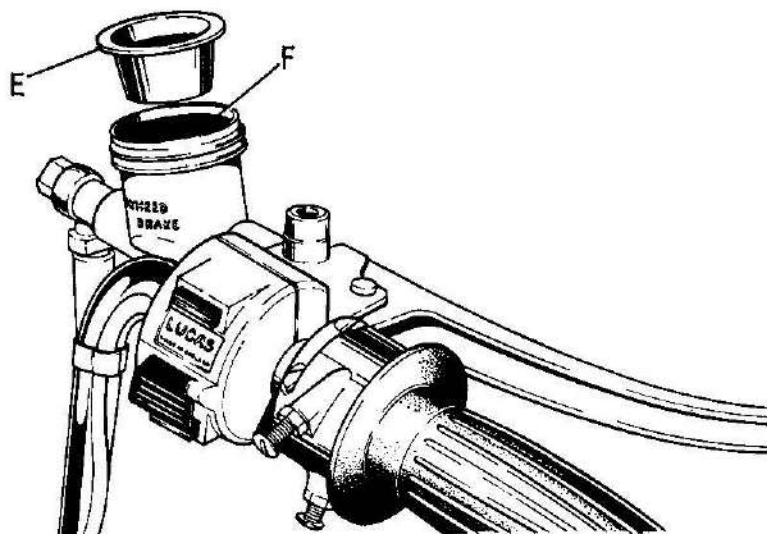
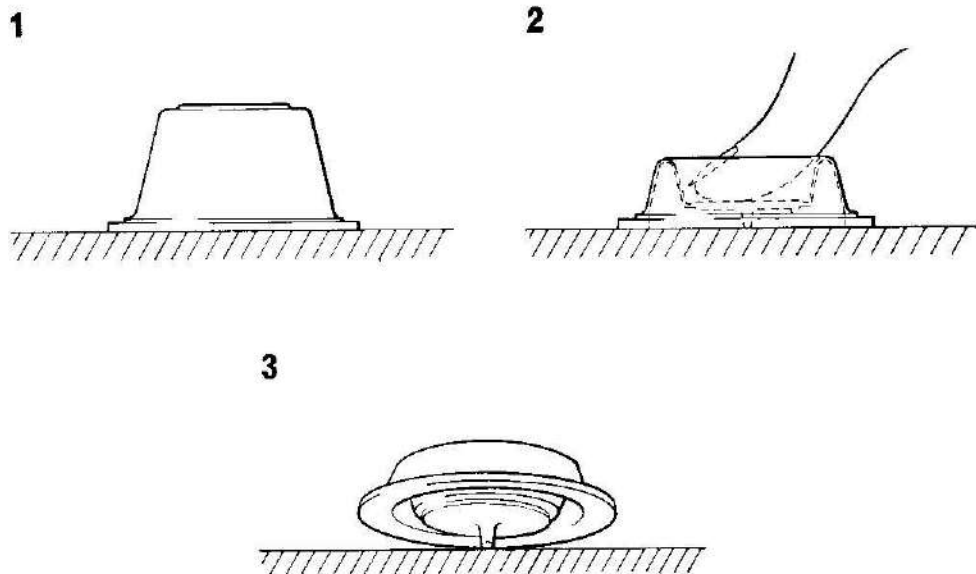

Fig. F25. Showing the brake reservoir fluid level and cap.
Fig. F27. Folded condition of rubber diaphragm
The brake fluid level in the master cylinder reservoir should be as shown in Fig. F25. (F). There is a mark running around the inside periphery of the reservoir about $\frac{1}{4}$ " (6.35 mm) from the top. During the life of the brake pads it will not be necessary
immersed in at least $\frac{1}{2}$ in. (12.7 mm) of brake fluid. Remove the screwed cap from the master cylinder reservoir and take out the rubber diaphragm "E" Fig. F25. Now slacken the bleed nipple $\frac{1}{2}$ to $\frac{3}{4}$ of a turn, (with the bleed pipe still attached).
Remember to maintain the level of hydraulic fluid in the master cylinder during the entire operation. The correct level for the fluid is shown in Fig. F25 at "F". This will be the correct level when the brake pads are NEW. When replacing the rubber diaphragm (Fig. F25 "E") it will be easier to replace the cap with the diaphragm in a folded condition. See Fig. F27.
If at any time it has been necessary to replenish the system with hydraulic fluid during the life of one set of brake pads, remember that when new pads are fitted the fluid level will rise appreciably in the cylinder and may spill onto the gas tank. Therefore the level will have to be corrected to that shown in Fig. F25 (Hydraulic fluid instantaneously corrodes cellulose paintwork and great care should be exercised when handling this fluid).